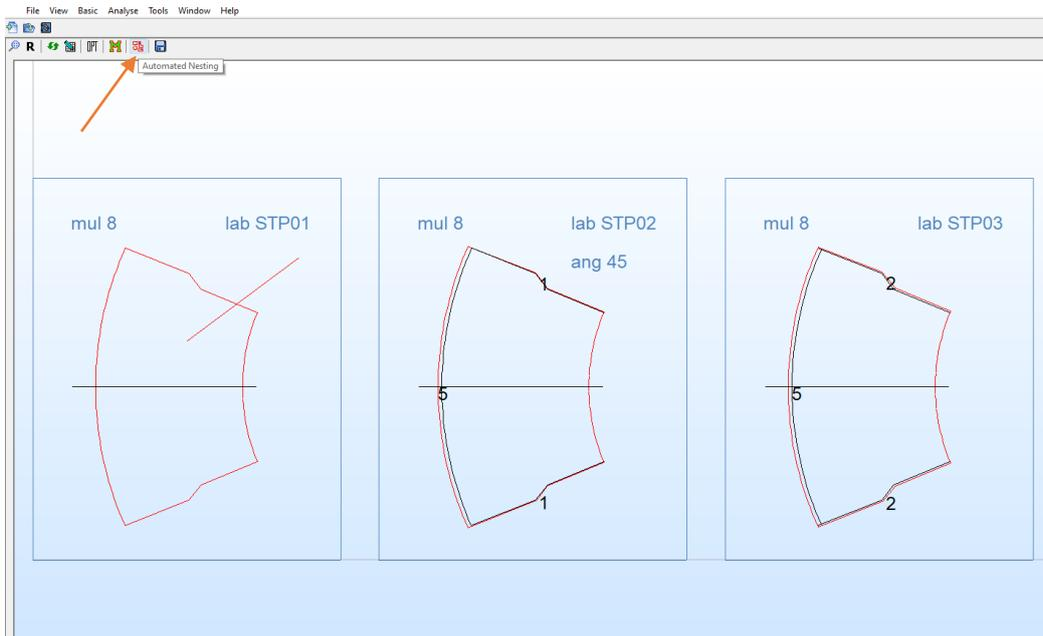

Figure 146
6. Back in the Standard Viewer click  (Figure 146).